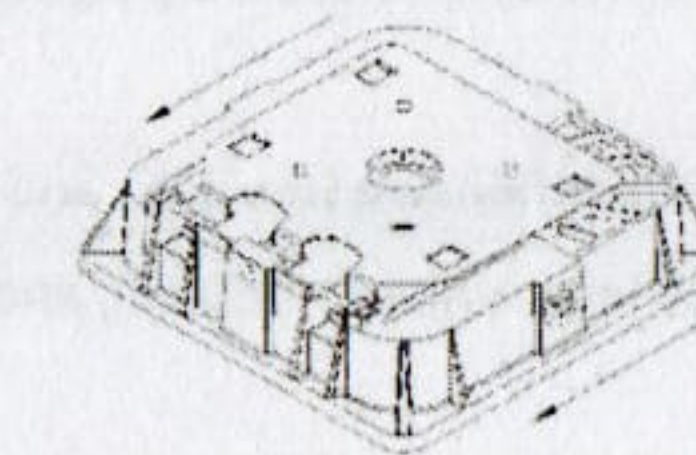

Figure 3
2. Slide the mounting plate toward Screw A, and then remove it from the luminaire body (see Figures 3& 4).